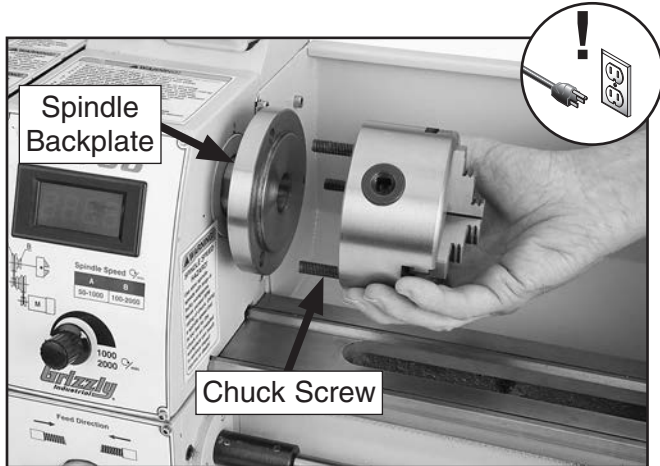

Figure 25. Inserting chuck into backplate.
- Insert (3) M8-1.25 X 35 set screws through mounting holes in spindle backplate, as shown in **Figure 25**. Make sure chuck seats firmly and evenly against backplate shoulder.